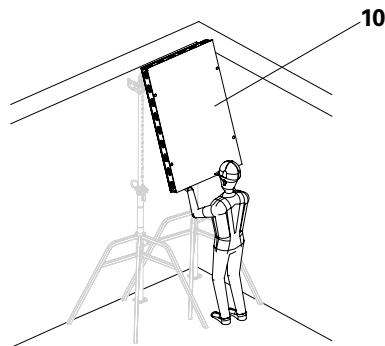

Fig. D2.02
3. Hook the DP panel (10) into DFH propheads. (Fig. D2.02)